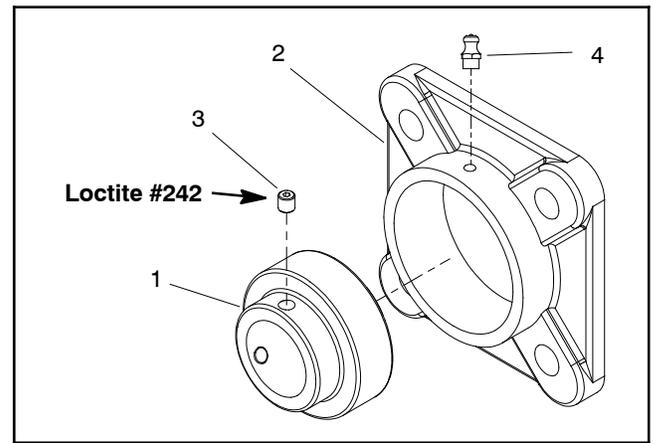

Figure 7
4. Loosen two (2) set screws that secure each bearing locking collar to roller shaft (Fig. 7).
5. Remove four (4) cap screws and lock nuts that secure flange bearings (item 4) to aerator frame.